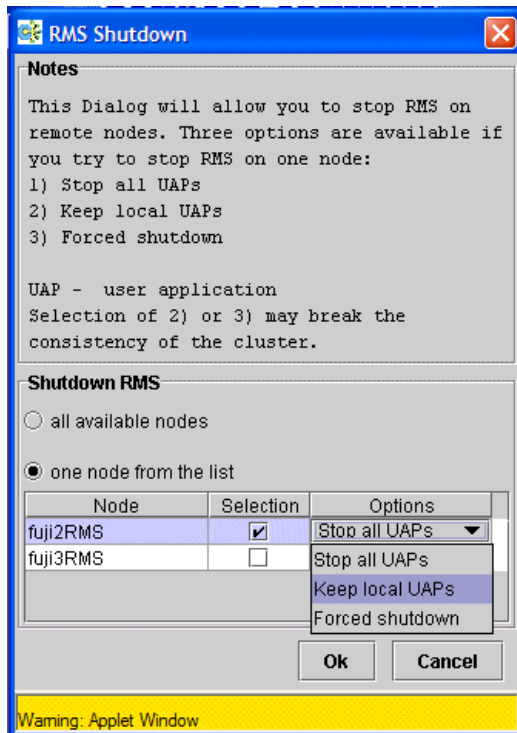

Figure 86: Stopping RMS on one node from the list
3. To shutdown RMS on specific nodes, select the radio button for *one node from the list*, click in the box or boxes of the desired node or nodes to shutdown, and click *Ok* (see Figure 86). This feature gives you the following options under the *Options* column in addition to shutting down RMS on the selected node: